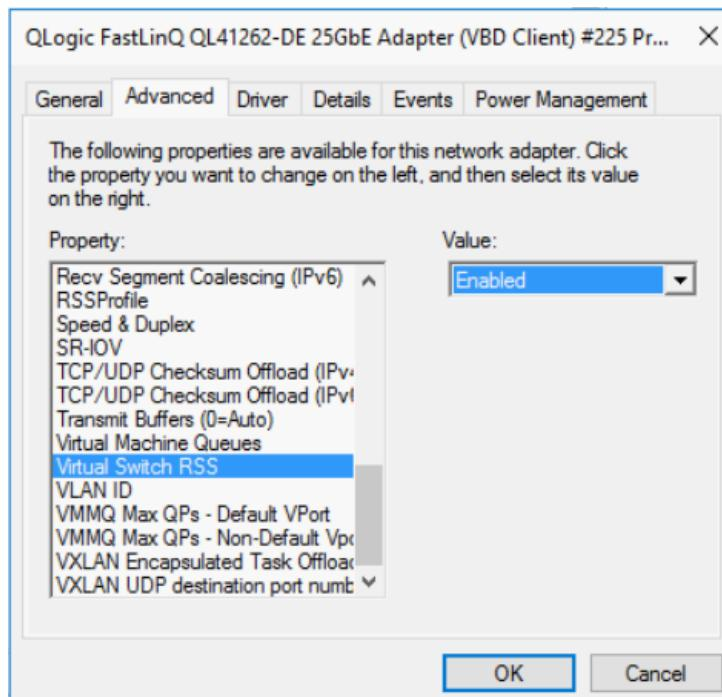

Figure 13-13. Advanced Properties: Enabling Virtual Switch RSS
2. On the Advanced Properties page (Figure 13-13) under **Property**, select **Virtual Switch RSS**, and then set the value to **Enabled**.